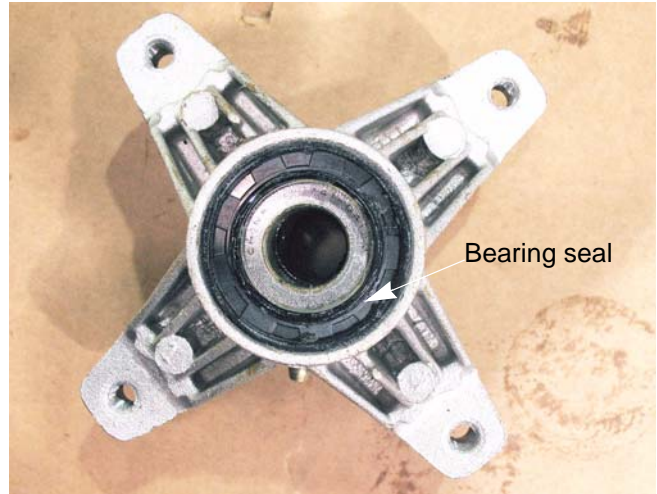

Figure 8.17
4. Remove the upper bearing seal. See Figure 8.17.